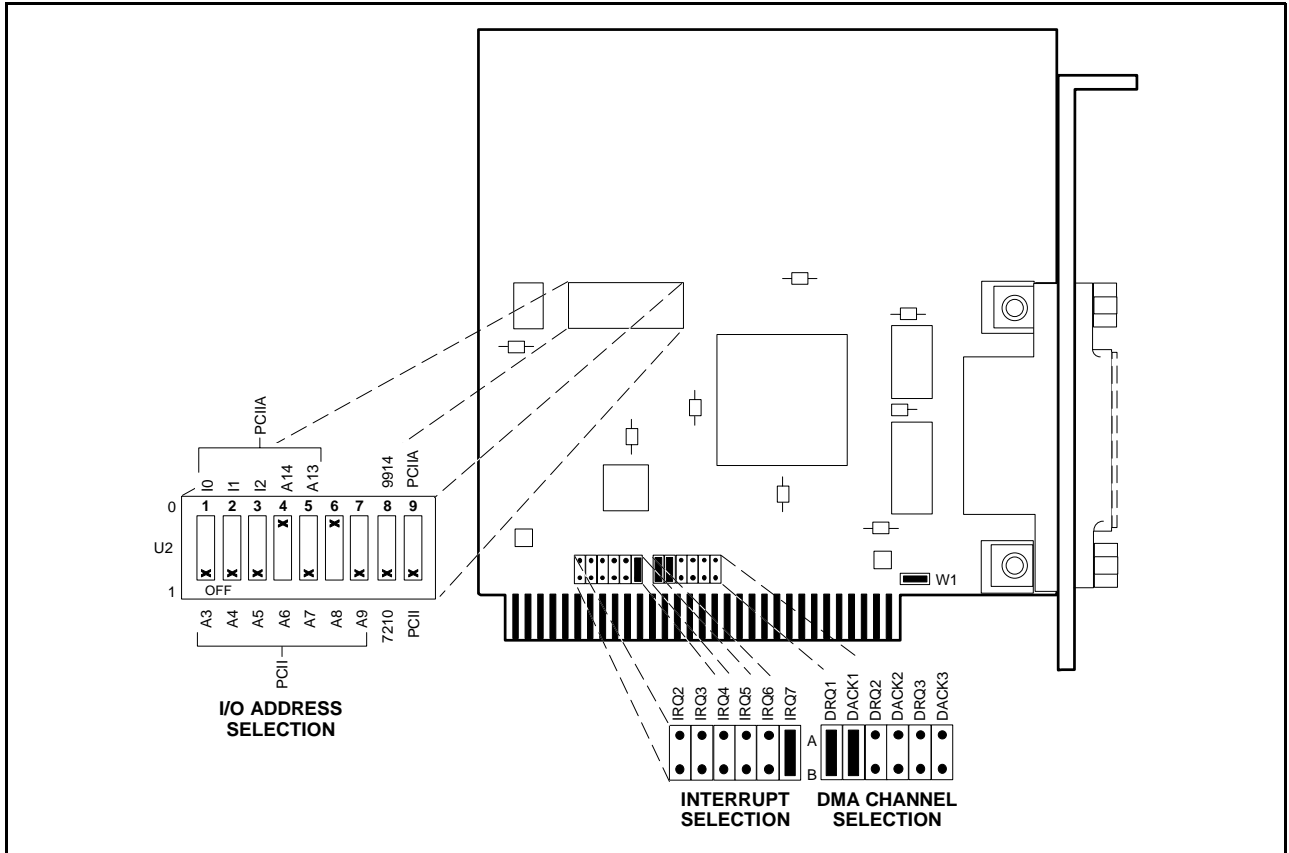

Figure B-1. GPIB-PCII/IIA Hardware Configuration
1. Before installation, set the switches and jumpers on the GPIB-PCII/IIA card as shown in Figure B-1.